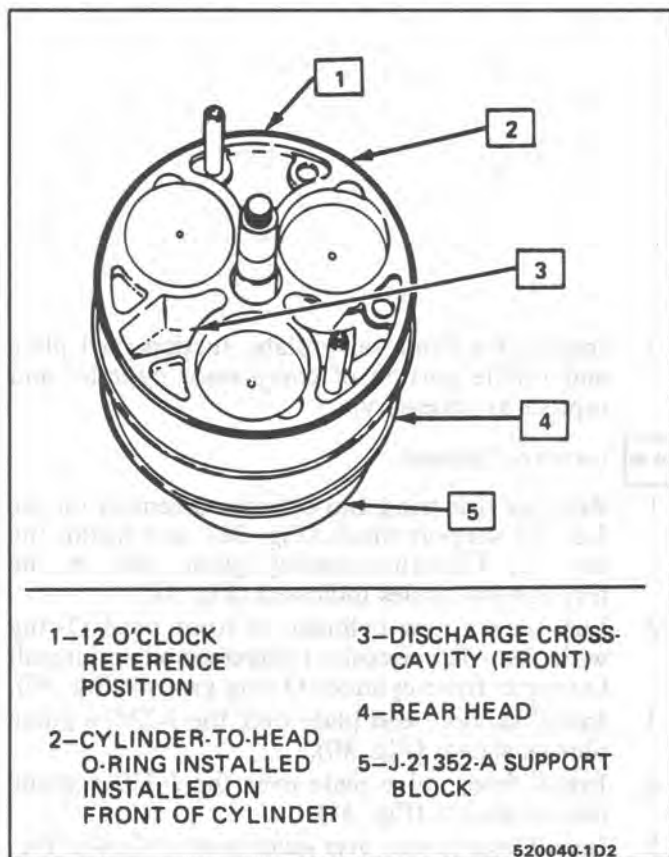

Fig. 39 Cylinder and Shaft Assembly Installed Over Guide Pins Into Rear Head
1. Rest the rear head and cylinder assembly on the J-21352 support block (Fig. 38), and install the two (2) J-33016 assembly guide pins in the through bolt holes indicated (Fig. 39).
8. With the O-ring in place on the rear of the cylinder, remove the cylinder and shaft assembly from the front head and assemble over the guide pins using the hole locations indicated in Fig. 39.
Carefully lower the assembly over the guide pins to the rear head (Fig. 39).
10. Lubricate a new cylinder to front head O-ring with clean 525 viscosity refrigerant oil and install O-ring in front cylinder O-ring groove (Fig. 39).